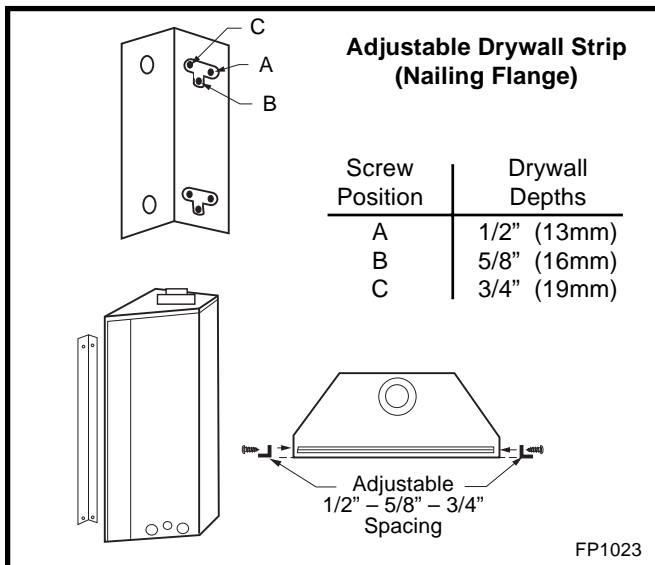

Fig. 5 Adjustable drywall strip (nailing flanges).
4. Attach the fireplace to the frame using the adjustable frame drywall strips (located behind the access door for shipping). Preset the depth to suit the facing material of the wall. The strips are adjustable to 1/2" (13mm), 5/8" (16mm) or 3/4" (19mm). (Fig. 5)